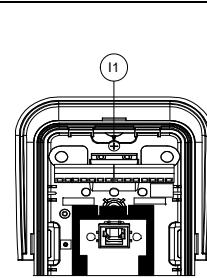

Figure 2
2. Release internal base (unlock I1, Figure 2).
- Insert external wires and tamper wires through internal base (lock I1, Figure2).
- Secure internal base to external base (lock I1, Figure2).